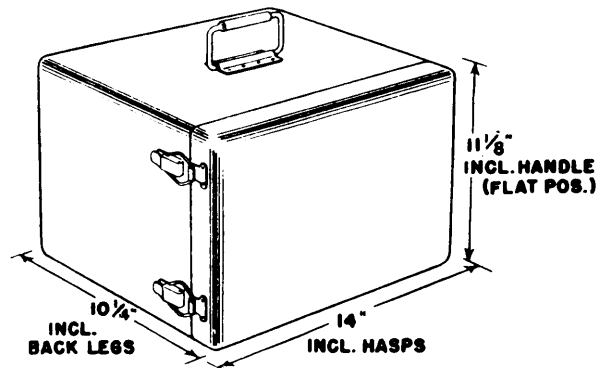

Figure 3-2. RF Signal Generator Set AN/URM-25B, Outline Dimensional Drawing
(1) Antenna Simulator SM-35/URM-25, (5:1) Fixed Attenuator CN-132/URM-25, (10:1) Fixed Attenuator CN-136/URM-25, Impedance Adapter MX-1074/URM-25, Test Lead CX-1363/U, Coaxial Adapter UG-201/U, Connector Adapter UG-684/U, and Instruction Book will be found on the inside of the panel cover. An aluminum plate with ferrule clips is provided for mounting these units.
(2) Power cable W-101 and output cables W-104, W-105, W-106 are also mounted on this aluminum plate.
c. Dimensions of the signal generator are shown in Figure 3-2.